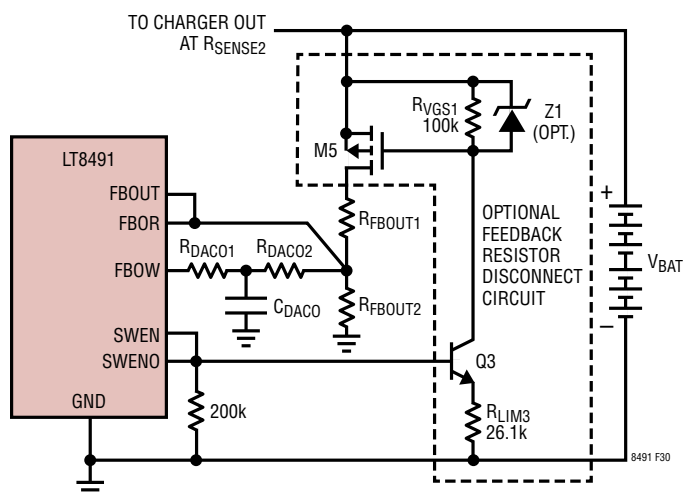
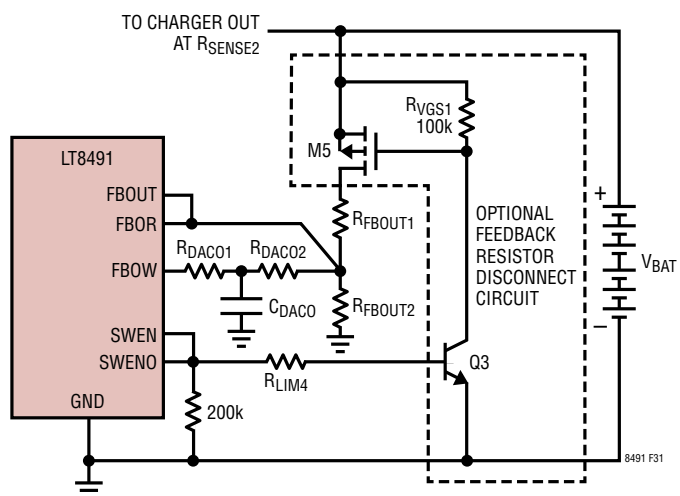

Figure 30. Optional Feedback Resistor Disconnect Circuit #1
Figure 31. Optional Feedback Resistor Disconnect Circuit #2
If desired, the resistors can be automatically disconnected from the battery when charging stops by using one of the circuits shown in Figure 30 and Figure 31. The circuits are controlled by the SWENO signal from the LT8491 and connect the resistor feedback network when charging is taking place. When charging stops, the network is disconnected and current draw from the battery becomes negligible.
**Selecting Z1:** Due to the transients that may occur during hot-plugging of a battery, this Zener diode is recommended to protect device M5 from excessive gate to source voltage. If using device Z1, the reverse breakdown voltage should be selected such that  $V_{GS(ON)} < V_{Z1(BREAKDOWN)} < V_{GS(MAX)}$  where  $V_{GS(MAX)}$  is the maximum rated gate to source voltage specified by the device manufacturer. The BZT52C13 has a reverse breakdown voltage of 13V making it suitable for the  $R_{LIM3}$  value shown in Figure 30.
**Alternate Circuit:** For lower battery voltages (< 20V), Q3 in Figure 30 may saturate. To avoid this, consider connecting the emitter of Q3 directly to ground by removing  $R_{LIM3}$  and adding resistor  $R_{LIM4}$  to the base of Q3 as shown in Figure 31. Employing the optional feedback resistor disconnect at arbitrarily low battery voltages will be limited by the required gate to source voltage of M5.